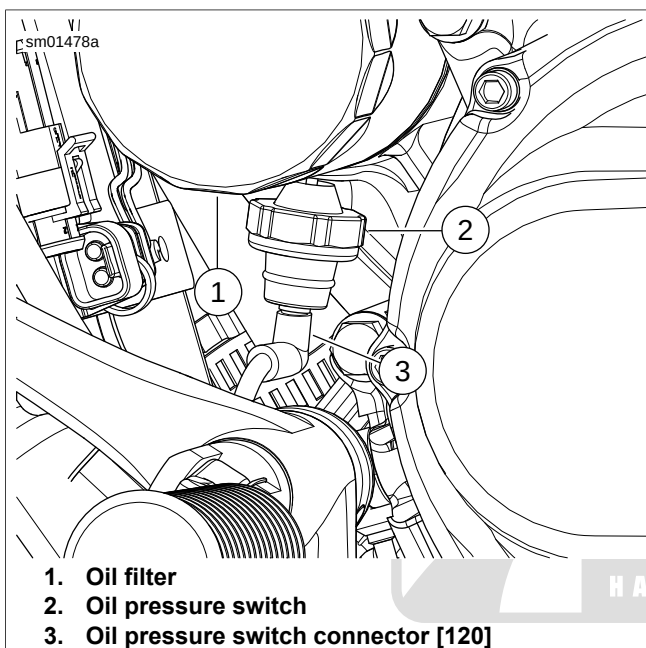

Figure 6-131. Oil Pressure Indicator Lamp Switch: XL Models
See Figure 6-131. The oil pressure switch is located under the oil filter mount at the front of the engine crankcase.
2. See Figure 6-131. Remove wiring harness connector [120] (3) by pulling elbow connector straight down from stud on oil pressure switch (2).
3. See Figure 6-131. Install oil pressure switch (2). Using OIL PRESSURE SENDING UNIT WRENCH (Part No. HD-41675), tighten switch to 50-70 **in-lbs** (5.6-7.9 Nm).